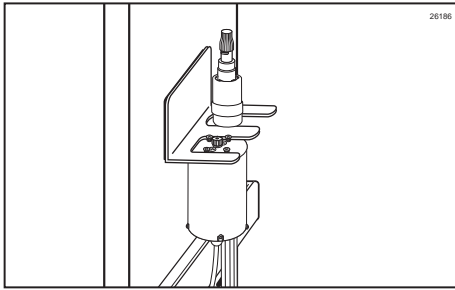

Figure 37
9. Replace the cap and hang the Assembly on the Accessory Hanging Bracket. (See Figure 37.)